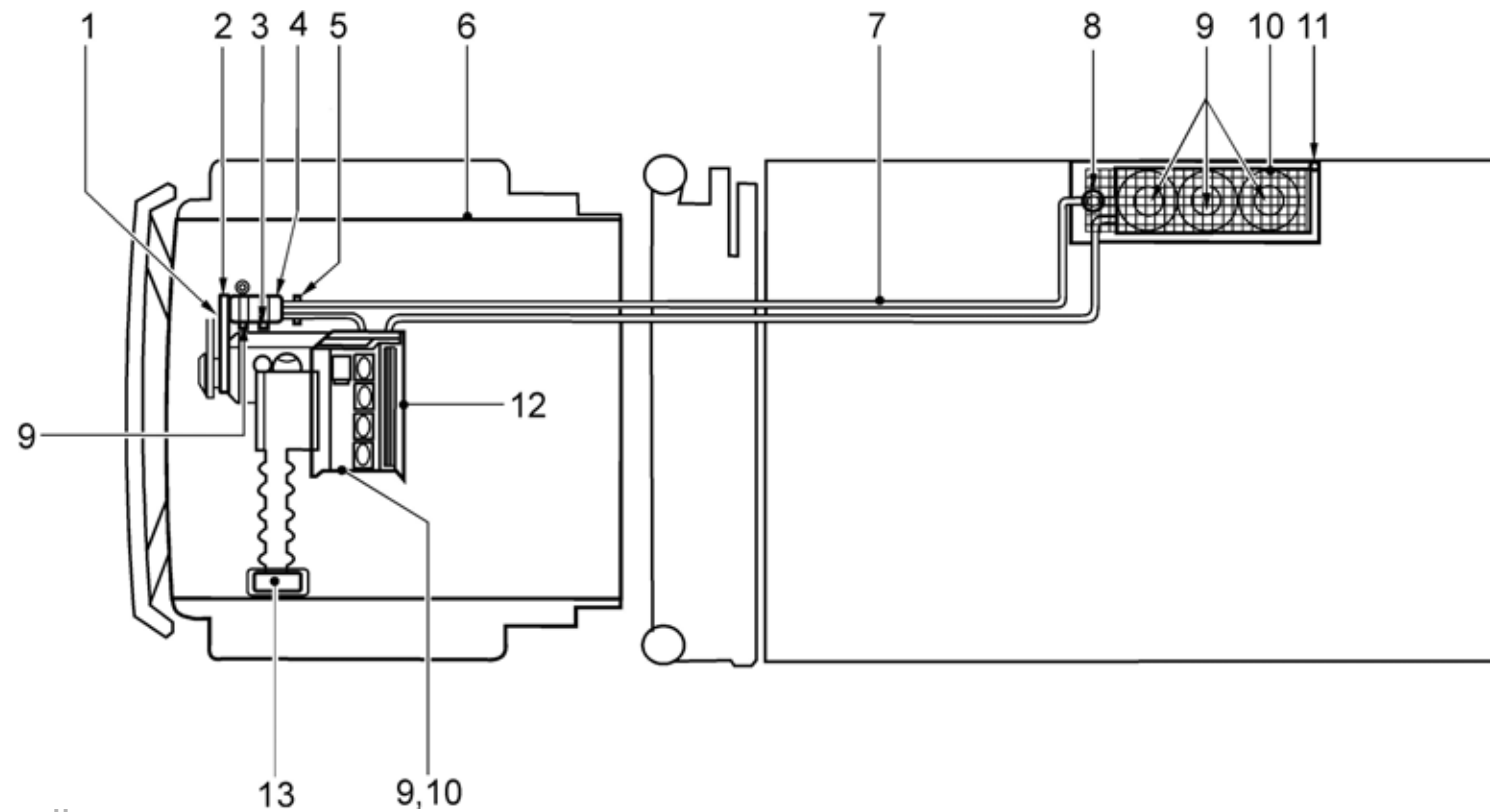

Figure 4 Heating and Ventilation
- 1 Table 8, Servicing Requirements for Heating and Ventilation System, refers to Figure 4, Heating and Ventilation.